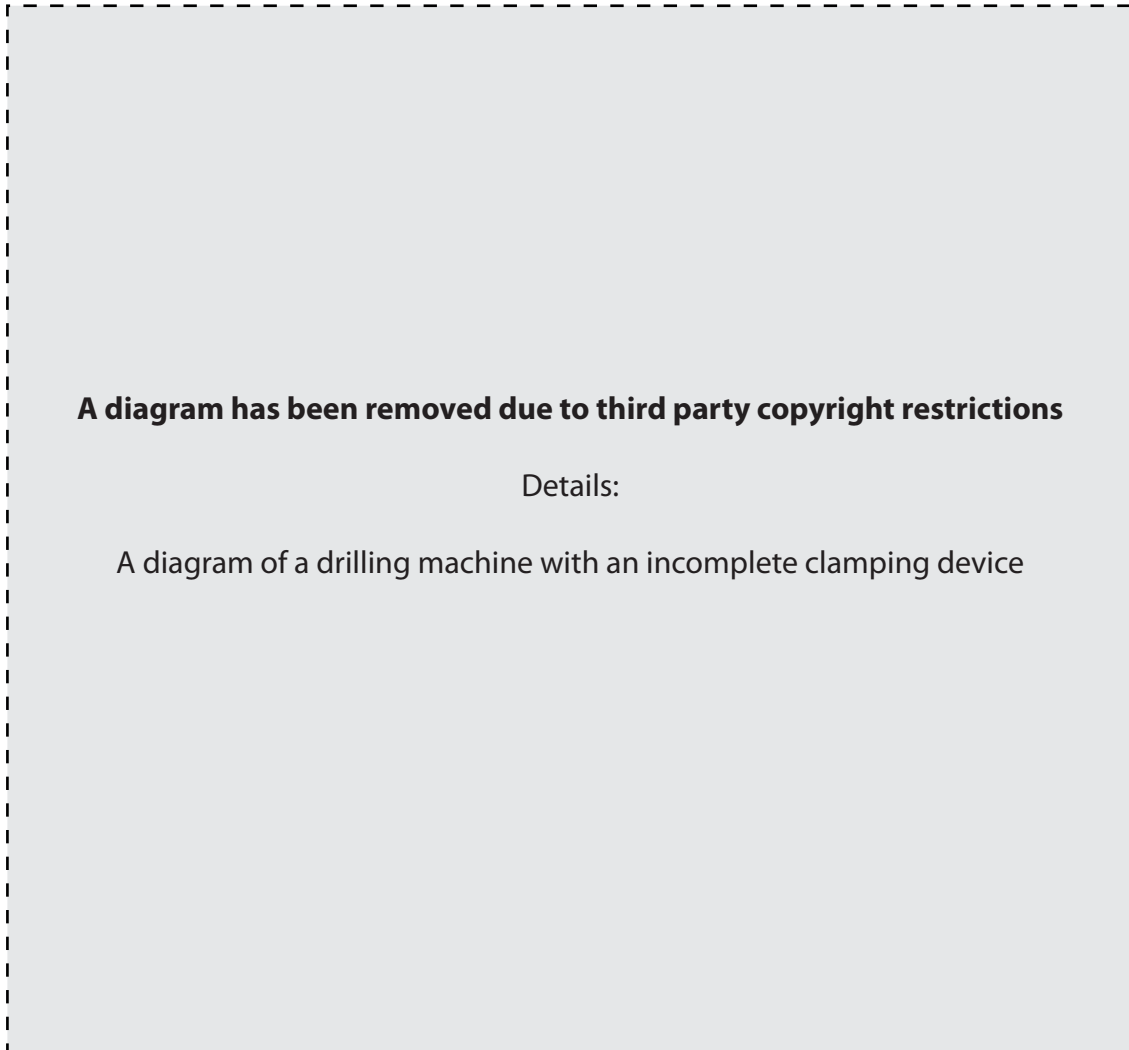

Fig. 7
- 4 Fig. 7 shows a drilling machine with an incomplete clamping device. The clamping device is used to clamp thin sheet material onto the drilling machine table.